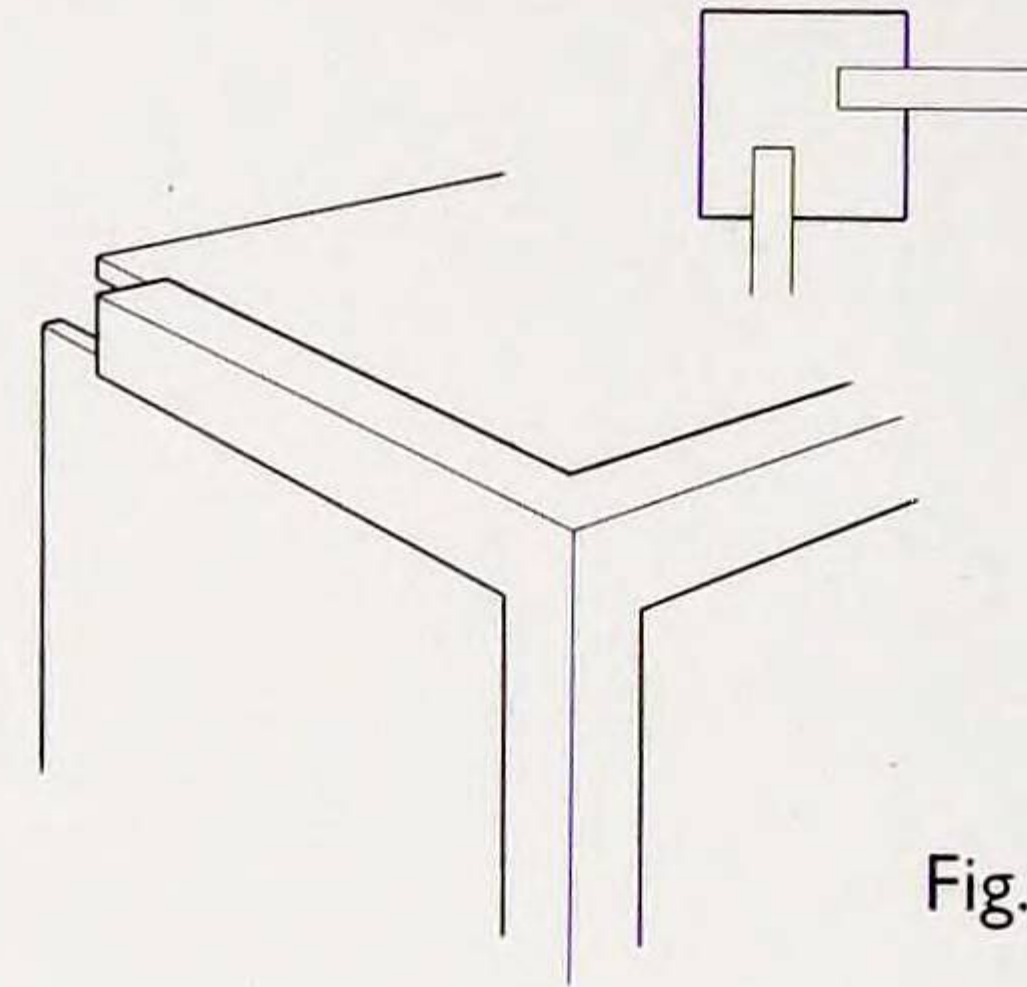

Fig. 5 Glazed timber frame
5. You now need to make the front glazed cover. You can either use thermoplastic clear sheet material and curve it to fit in place as described in the Tip opposite, or make a timber frame as shown in the main photograph in which the glazing can rest (Fig. 5). It is not advisable to use glass, because of its weight and the difficulty in fixing it. Instead, use one of the highly transparent plastic sheets, either Perspex or Orreglass